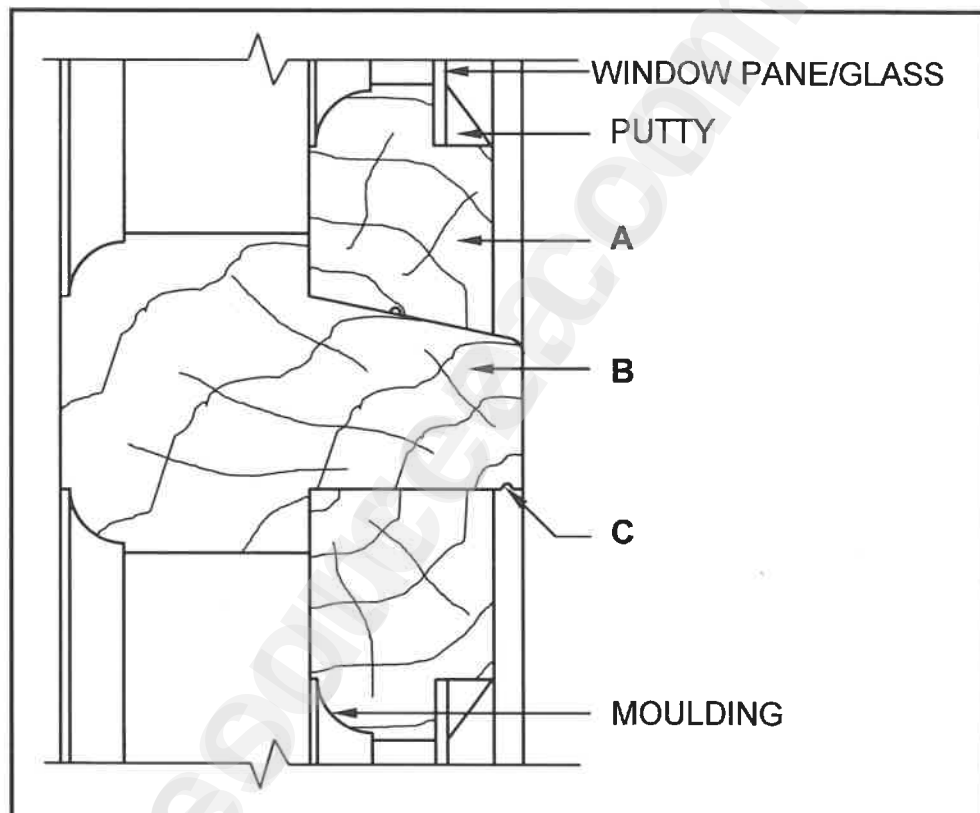

FIGURE 3.1
- 3.1 FIGURE 3.1 below shows the vertical sectional view through a part of a casement with a fanlight. Study the sketch and answer the questions that follow.